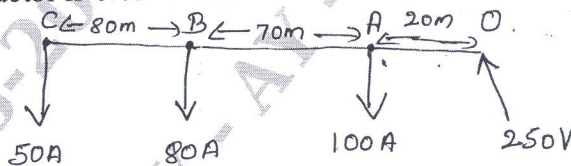

Fig.Q9(b)
- b. The Fig.Q9(b) show a two wire distribution system. Calculate the voltage at each load. The resistance of each conductor is $0.03 \Omega/\text{km}$.